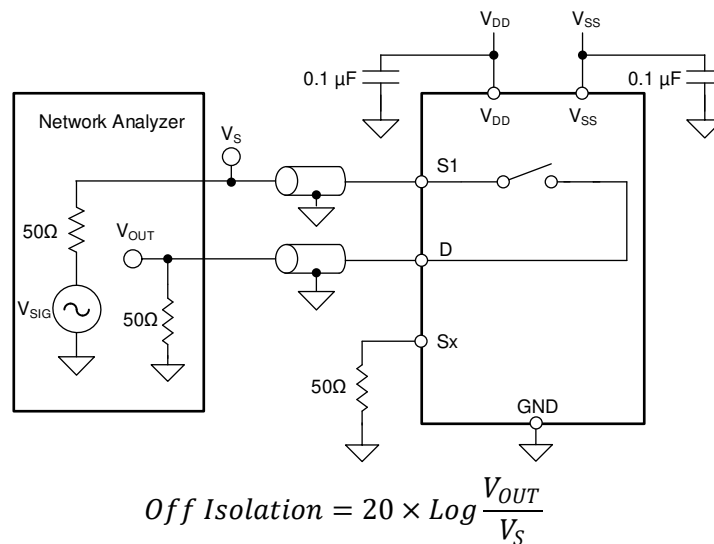

Figure 8-12. Off Isolation Measurement Setup
Off isolation is defined as the ratio of the signal at the drain pin (D) of the device when a signal is applied to the source pin (S_x) of an off-channel. Figure 8-12 shows the setup used to measure, and the equation used to calculate off isolation.